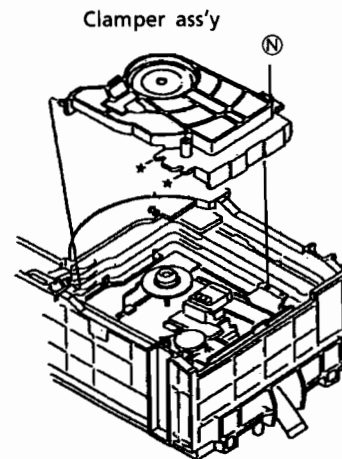

Fig.28
5. Remove a screw ⑤securing center of the clamper ass'y.(See Fig. 28)